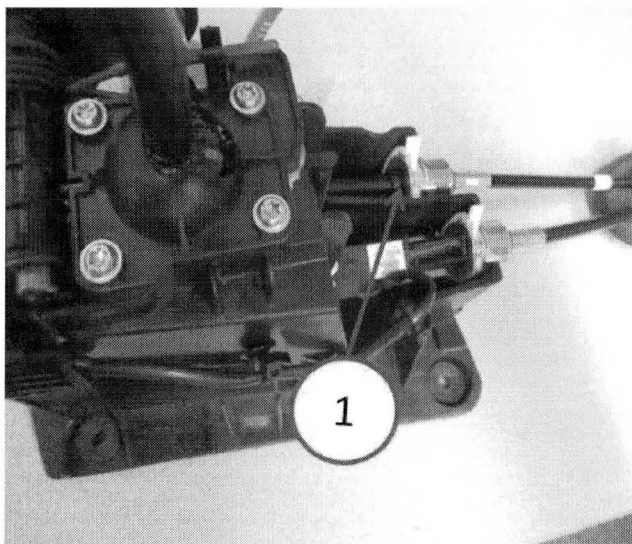

Fig. 2 Shift Module
6. Here is how a properly seated cable will look (Fig. 2).